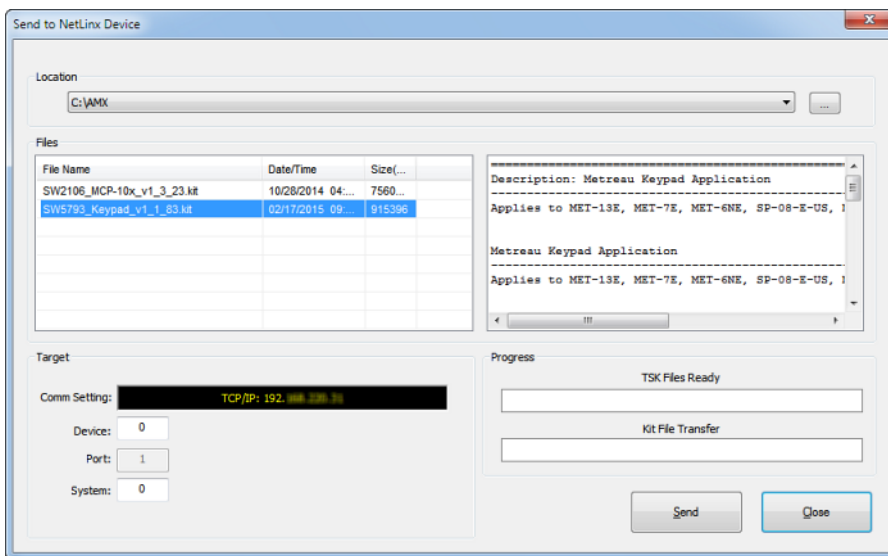

FIG. 39 Send to NetLinx Device dialog
5. Click the *Browse* button (...) to locate and select the firmware (*.kit) file that will be transferred, in the *Browse for Folders* dialog (FIG. 39):